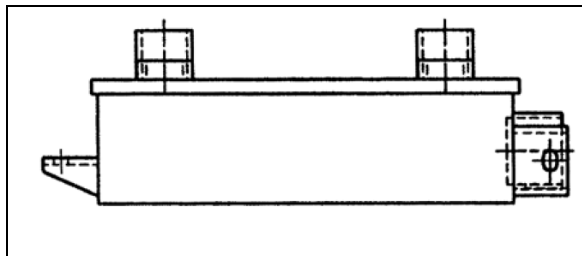

FIGURE 8: COOLER WITH RETARDER 07073
2. Disconnect the two transmission hoses from oil cooler. Cover hose ends and fittings to prevent fluid contamination (fig.8).